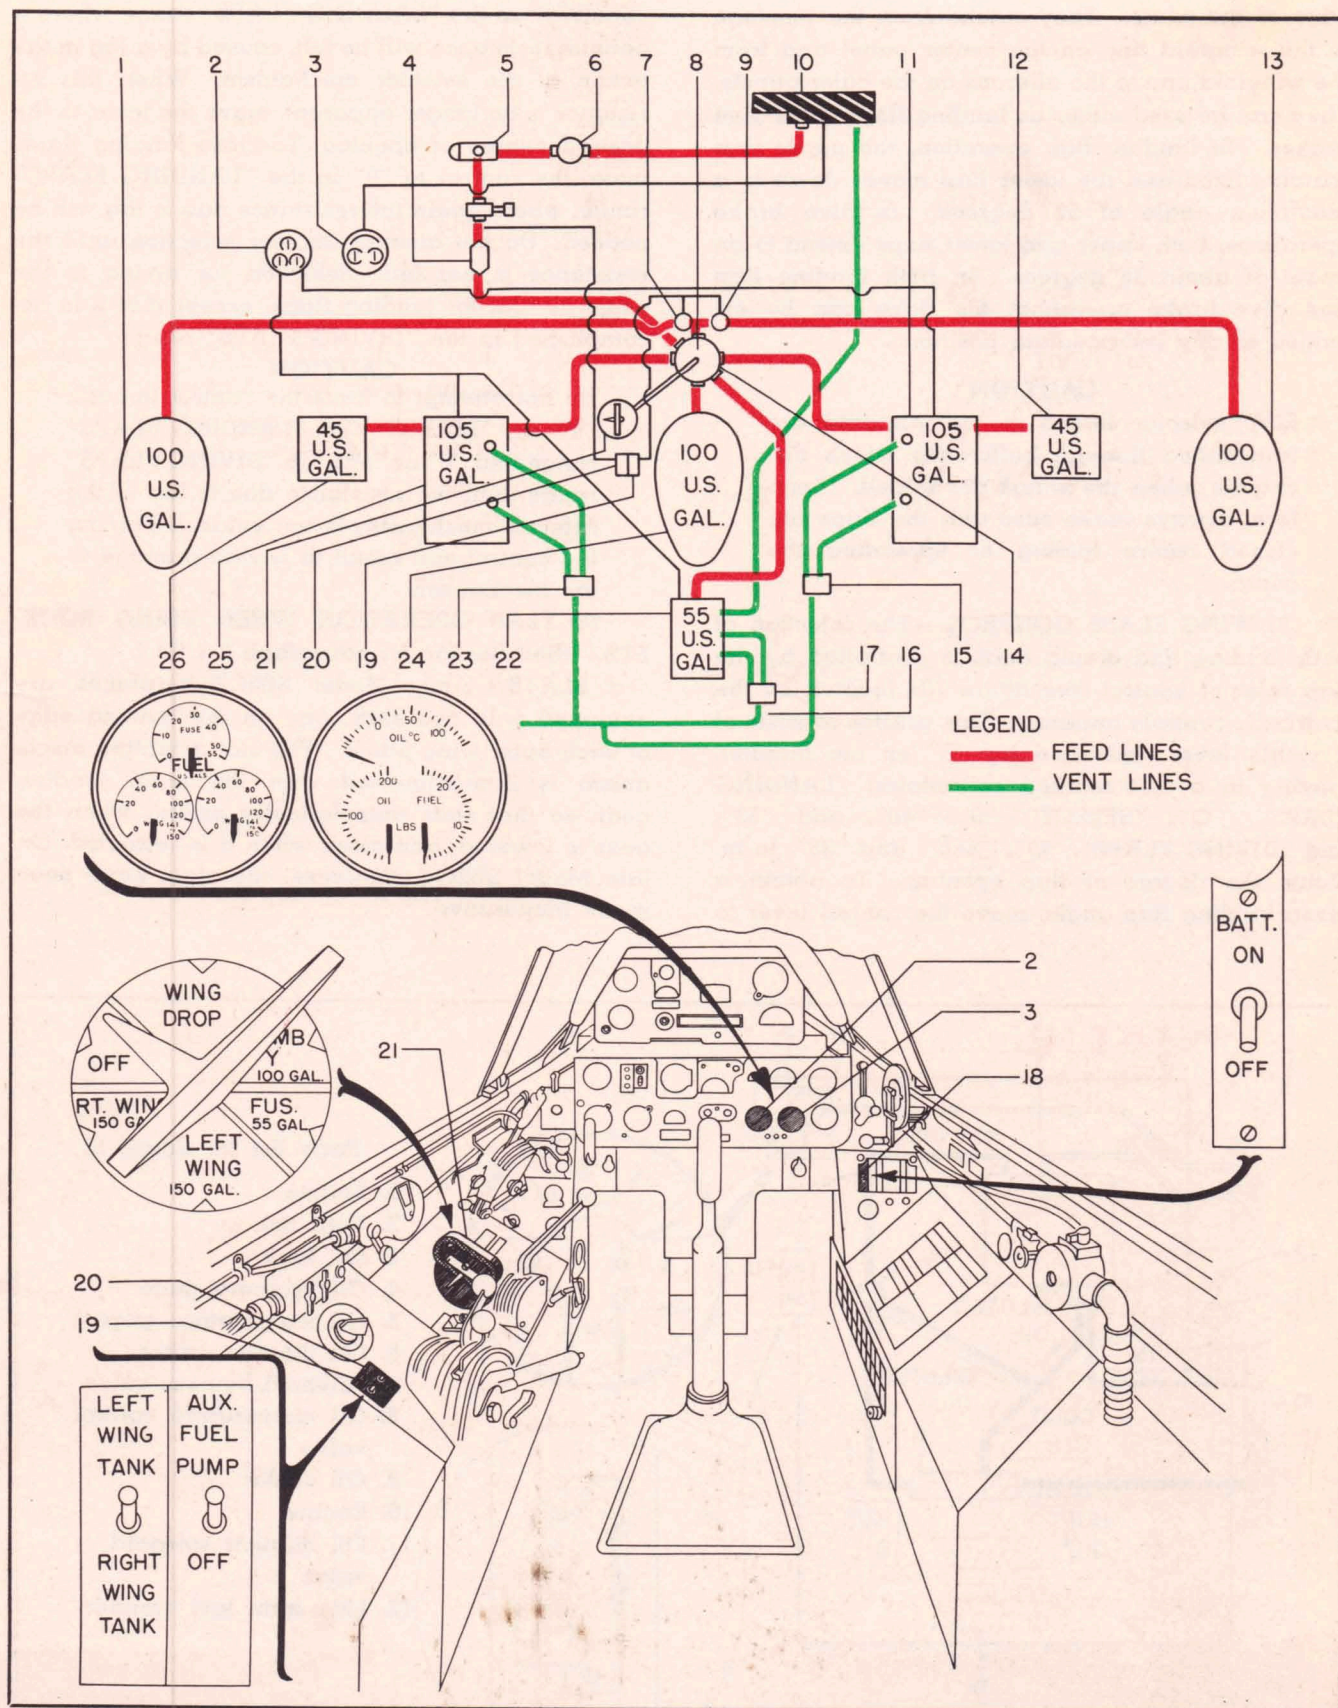

Figure 11—Fuel System Diagram
Parts list for figure 11.
(See figure 11.)
(1) FUEL SELECTOR VALVE.—The control for the selector valve is mounted on the left console (see figure 11). Six positions are indicated on the control dial: "LEFT WING", "FUSE", "BOMB BAY", "RIGHT WING", "WING DROP", and "OFF". Be
(2) SELECTION OF DROPPABLE TANKS.—An electric toggle on the left console operates two solenoid valves in the lines from the droppable wing tanks. This switch has two positions marked "LEFT WING TANK" and "RIGHT WING TANK". (See figure 11). For tank shifting procedure see Section II, paragraph 3, a. (2)
(4) AUXILIARY FUEL PUMP CONTROL.—The auxiliary fuel pump is controlled by a switch set in the left console, next to and immediately forward of the droppable wing tanks switch. (See figure 11.) This switch has two positions "AUX FUEL PUMP" and "OFF"; flip the switch to "AUX FUEL PUMP" to turn on the pump.
marked "WING", "FUSE", and "WING", mounted on the lower left instrument panel on airplanes through Bureau Number 83352 (see figure 11), and on the lower right instrument panel on airplanes Bureau Number 83353 and subsequent, shows the fuel contained in the internal fuselage and wing tanks. The gauge operates automatically when the battery switch is turned "ON". Since no provision is made for indicating the amount of fuel contained in the droppable tanks, consumption from these tanks must be determined from the elapsed time during which fuel is withdrawn.
(7) FUEL PRESSURE GAUGE.—The fuel pressure gauge is contained in the engine gauge unit, mounted on the lower instrument panel. (See figure 11.)